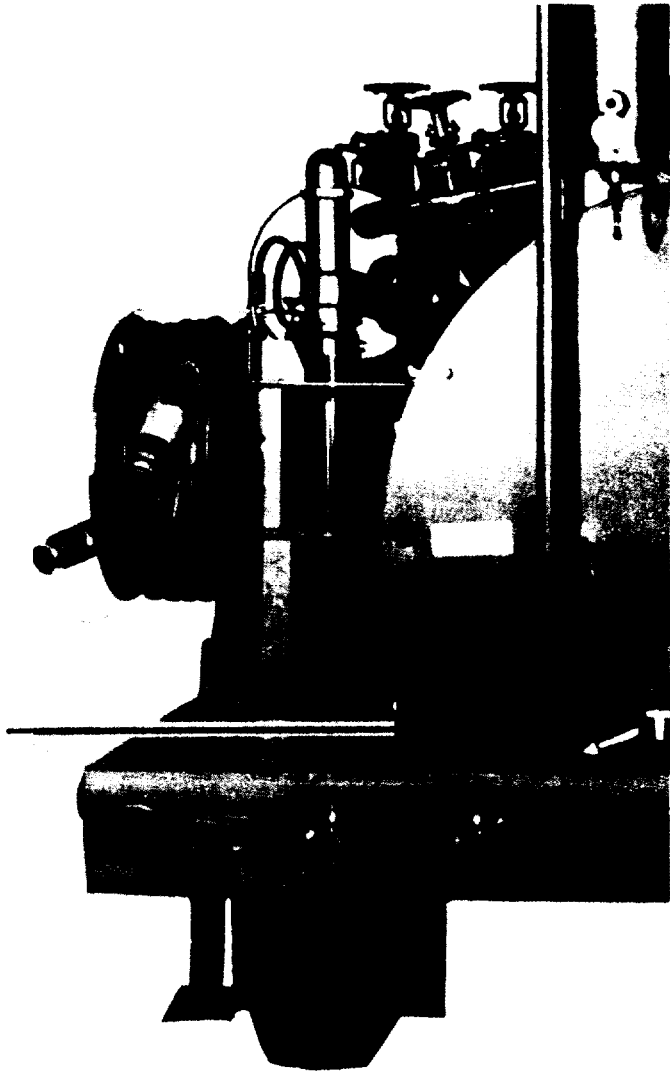

Figure 12. REAR GROUNDING CONNECTION.
3. Connect ground wires to ground lugs on heater one to the front of the heater (Ref. Fig. 11, Item 4) and one to the rear of the heater (Ref. Fig. 12).